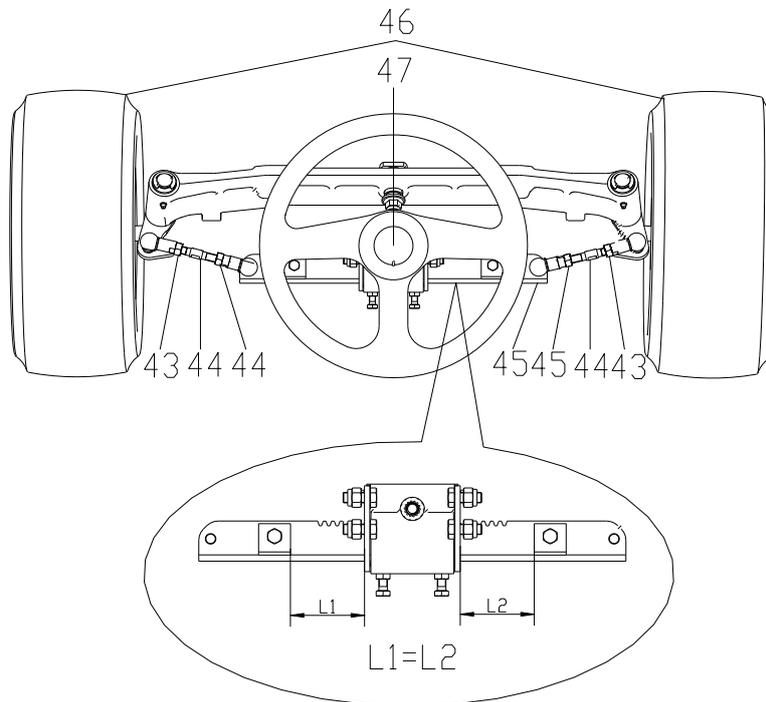

Fig. 7
1. Adjust the gear rack (48) to a middle position to make sure that the length of the left and right are equal ($L1=L2$ in Fig. 7)
2. Before installation, turn the steering wheel (47) to the position shown in Fig. 7.
3. If left and right front wheels (46) are not in the straight-ahead position, keep the steering wheel (47) in a fixed position and regulate the steering adjustment lever (44) to correct the direction of tires.
4. Taking the left front wheel for example, under the conditions that the gear rack is in the middle position and $L1=L2$, if it shows a leftward deviation when the steering wheel (47) turns to the position shown in Fig. 7, you need to use a 10 mm open-end wrench to secure the steering adjustment lever (44) while loosening the nuts (43) and (45) with a 16 mm open-end wrench.
5. Keep the steering wheel (47) in a fixed direction and rotate the steering adjustment lever (44) to regulate the left front wheel back to the straight-ahead direction.
6. Use a 10 mm open-end wrench to keep the steering adjustment lever (44) in fixed position (now, the lever cannot be rotated), use a 16 mm open-end wrench to loosen the nuts (43) and (45).